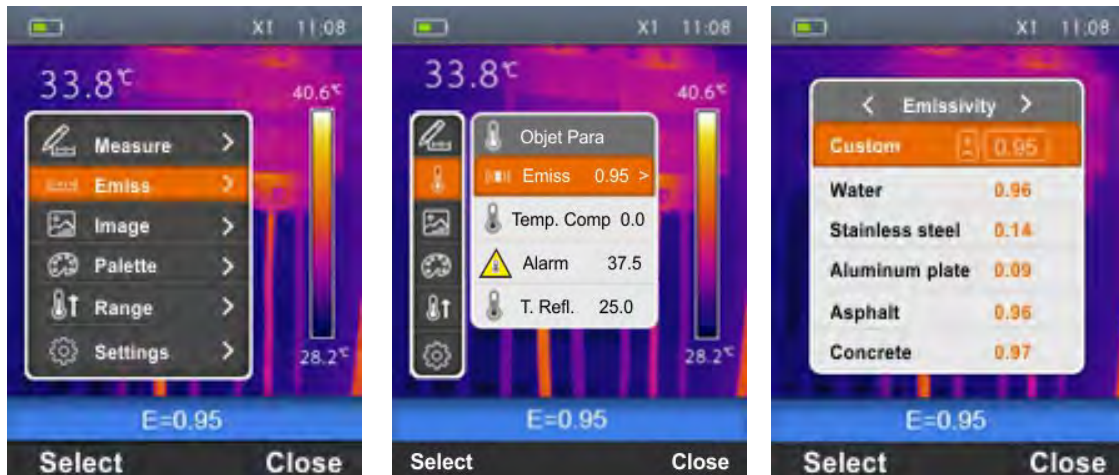

Fig. 18: Setting Emissivity on the instrument
1. Select the item “Emiss” with the keys \oplus or \ominus and press the key \blacksquare . The screen Fig. 18 – Central part is shown on the display.
1. Use the keys \oplus or \ominus to select the item “Emiss” and press the key \blacksquare . The screen Fig. 18 – Right side is shown on the display